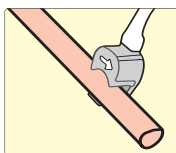

Fig. 1: Align the vessel of the probe as shown.
Measure the vein's diameter with a gauge. Select a probe so that the vein will fill between 65% - 100% of the sensor window of the probe (Fig. 1).
3. Apply the Flowprobe to the vein, bending the probe's flexible neck so that the entire vein lies within the sensing window of the probe and aligns at a 90° angle with the probe handle (Fig. 1).